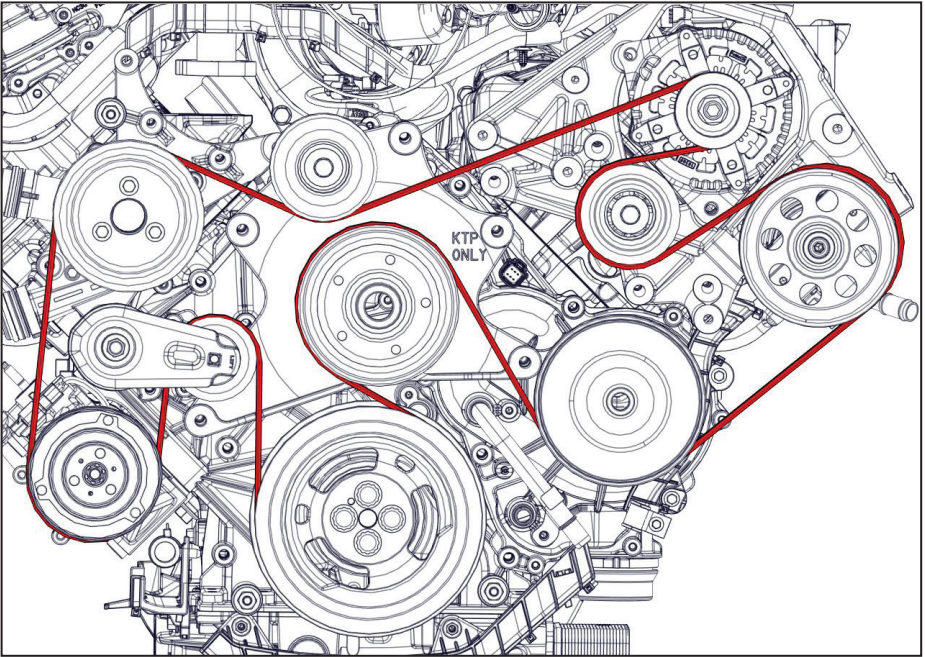
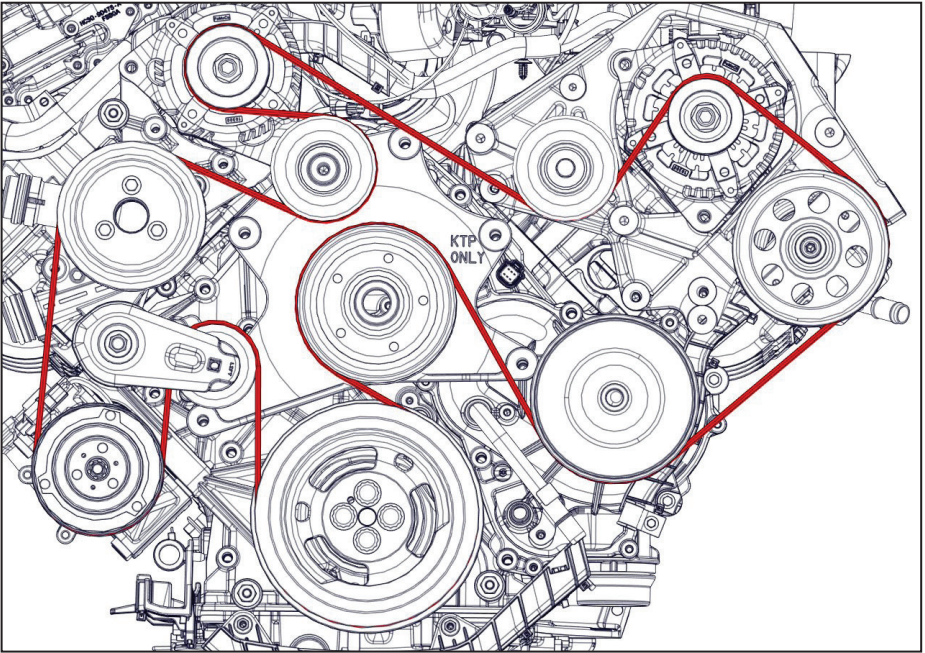

Figure 52 — OEM single alternator belt routing
Figure 53 — OEM dual alternator belt routing
□ Install and tension the OEM belt (Figure 52 or Figure 53).